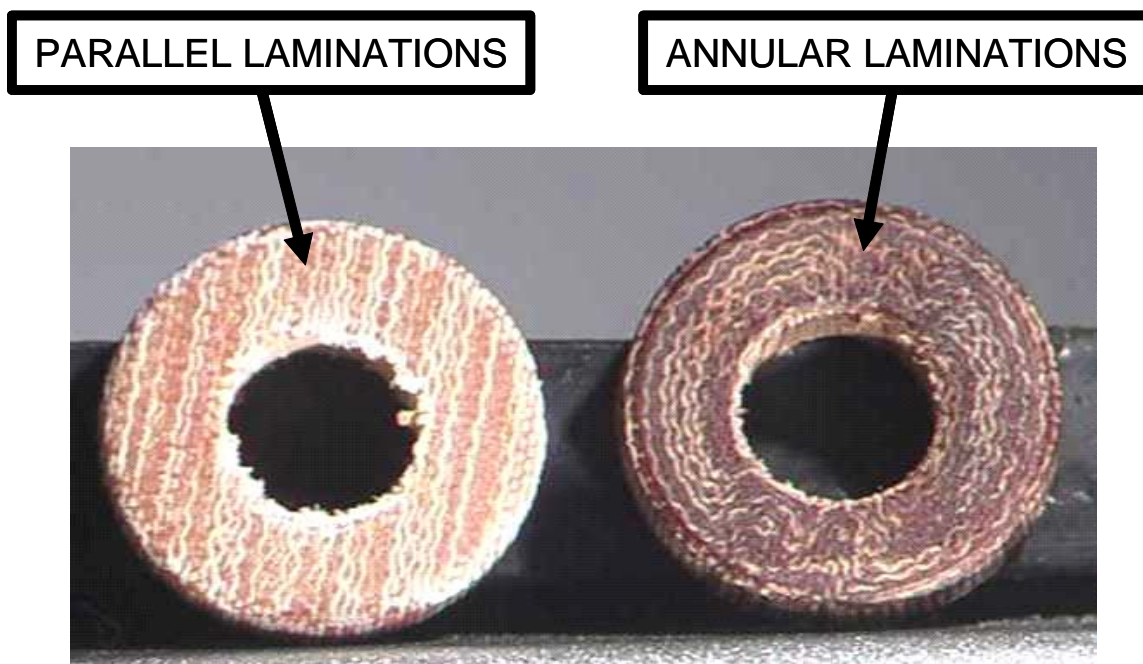

FIGURE 1
- Inspect the P/N 10-361639 tachometer insulating bushings for cracks, crushing or other damage. Current bushings use phenolic material that is laminated in an annular (circular) pattern. (Reference Figure 1)